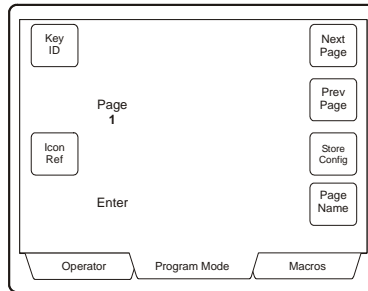

Figure 4.2: Configure Macro Menu
3. Press the MACRO CONFIG soft key. The configure macro menu will be displayed (figure 4.2).
When the title is complete, press the ENTER soft key. The text editor menu will close and the display will return to the configure macro menu (figure 4.2).
1. From the configure macro page (figure 4.2), press the STORE CONFIG soft key. The macro page and macro icon definitions will be written to the current smart card.